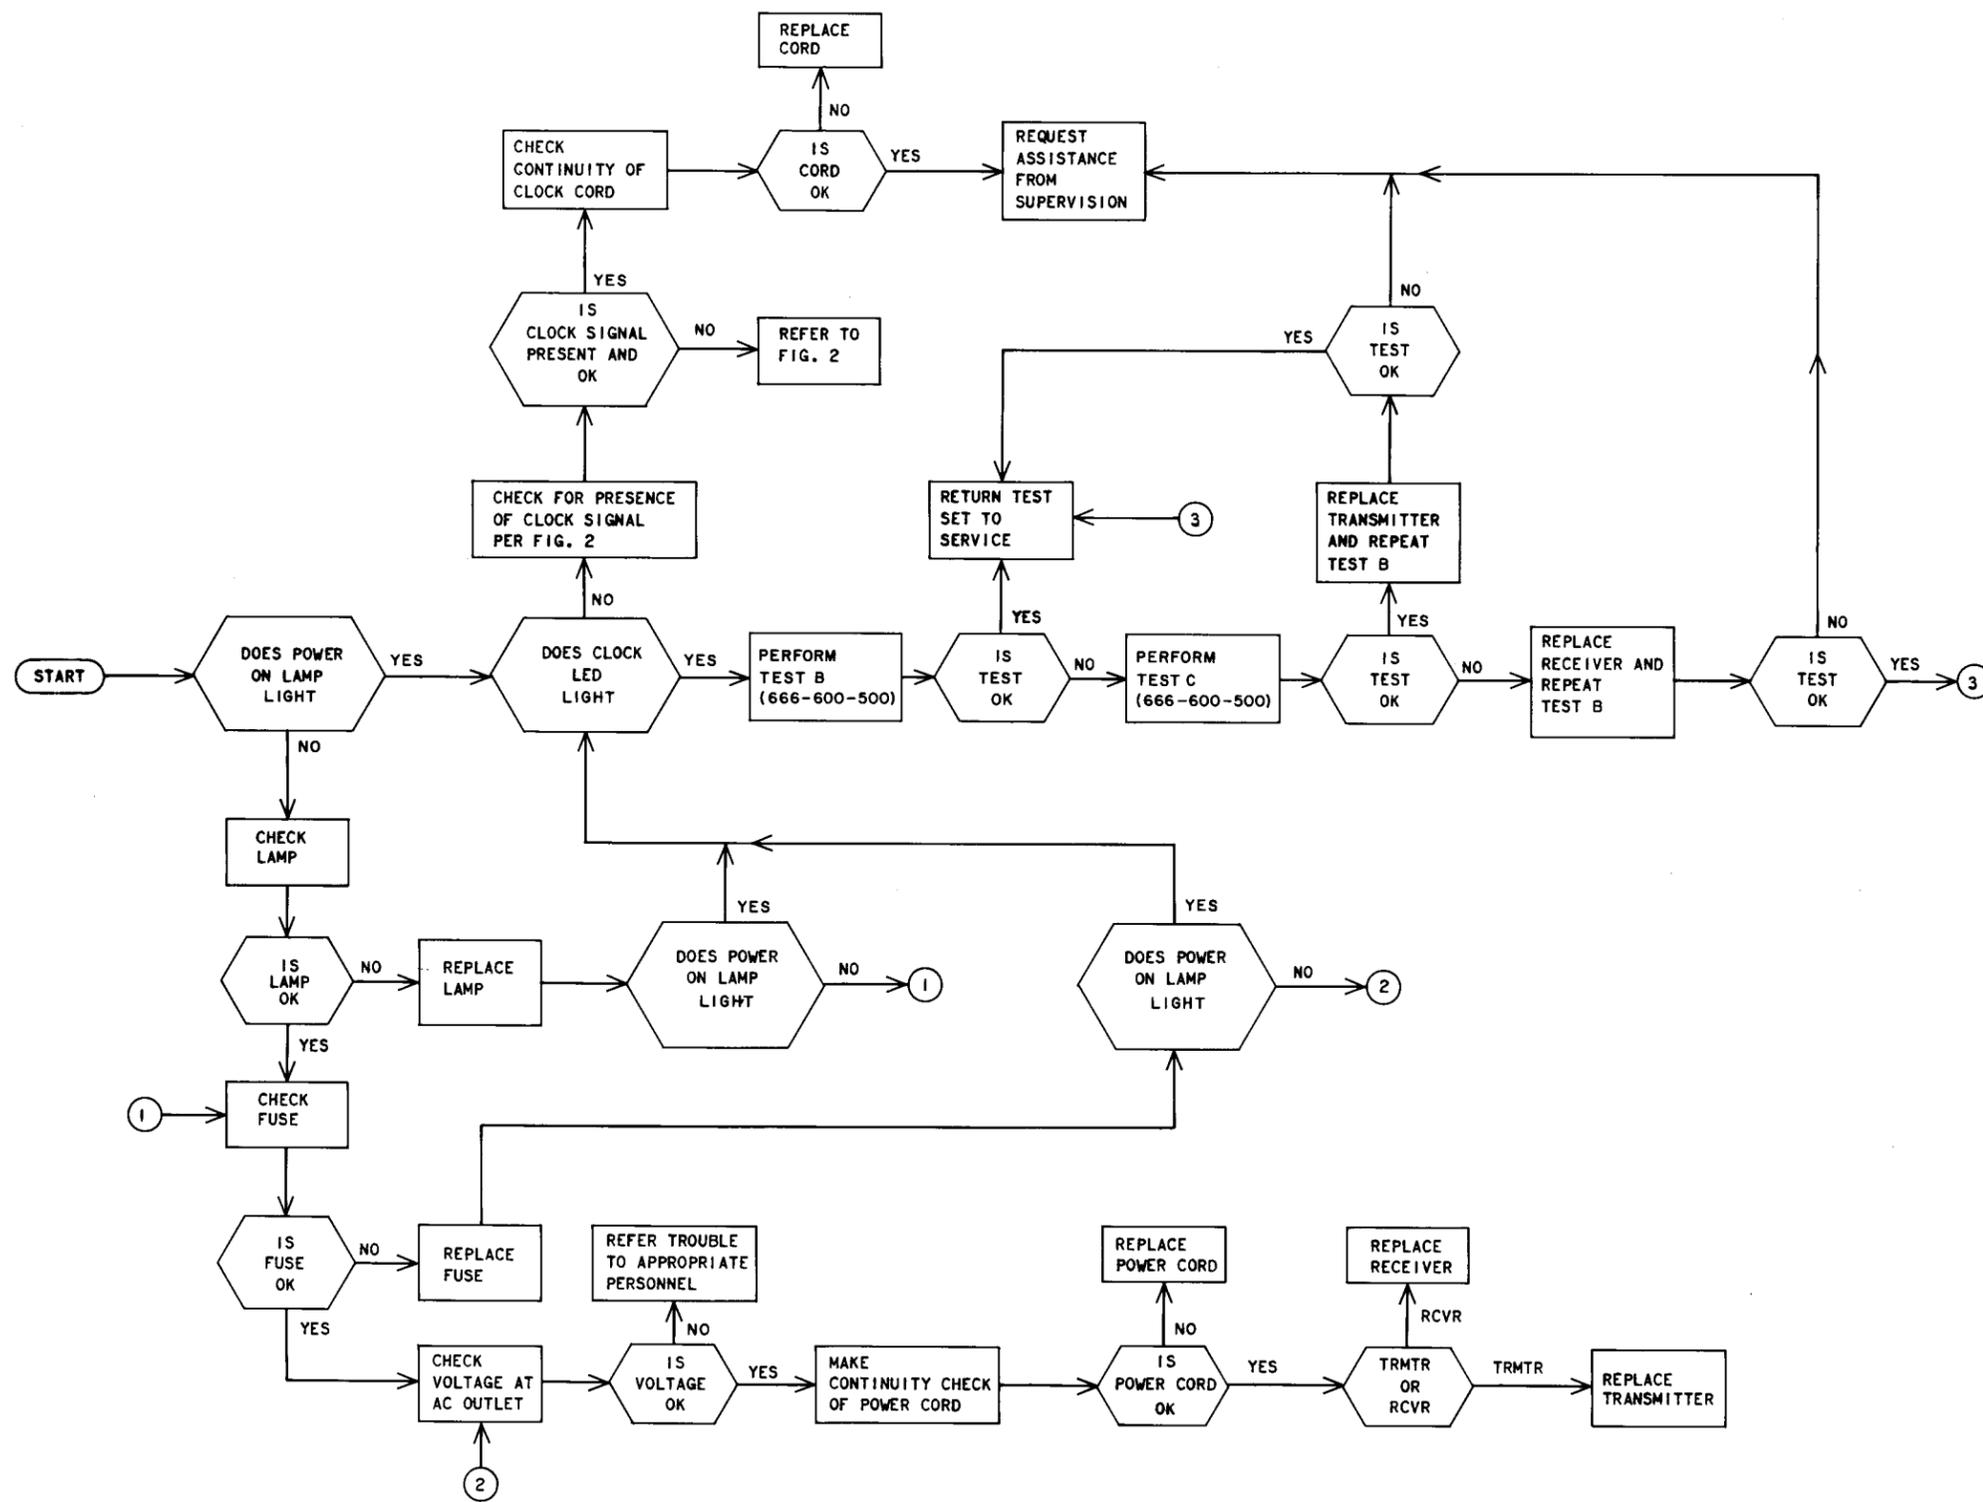

Fig. 1—Troubleshooting Flowchart for KS-20908 and KS-20909 Data Test Sets
4.02 The following flow diagrams (Fig. 1 through 13) will aid in locating defective components in the testboard. The tests referred to in the flow diagrams can be found in Section 666-600-500.